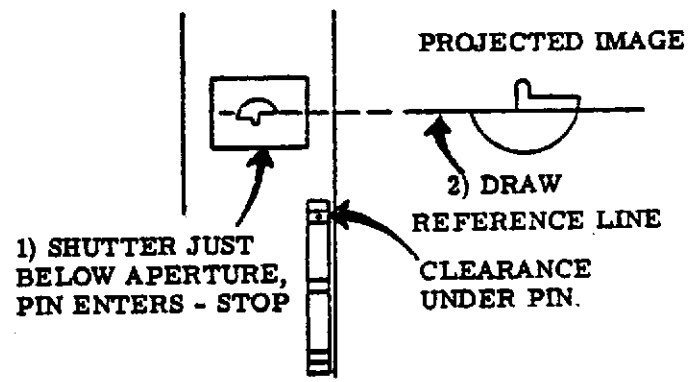

Figure 3-79. CLAW PULL DOWN STROKE SET-UP
h. Manually raise the Douser and project an image at least 8" wide (a wide angle lens will help achieve this width at a shorter projection distance), raise the elevation approximately 1" (this will get you set up in case stroke is in need of adjustment), and draw a reference line the full width of the Target on the bottom step. (Figure 3-79)